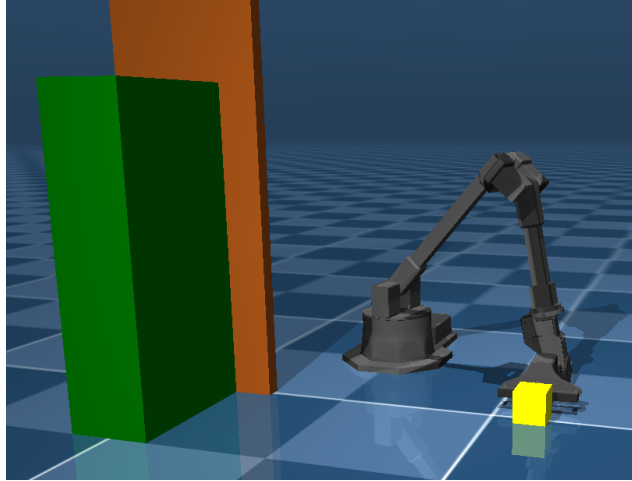

Figure 1: Trajectory control for the Trossen WidowX 250 S
2. **Trajectory control for Trossen Robotics WidowX 250 S:** For completeness, this question is copy pasted from HW9, but new parts are in **magenta**. Figure 1 shows the WidowX 250S by Trossen Robotics. A video of the robot in action is here: https://www.youtube.com/watch?v=l_10IH0JNxl. I have provided the *wx250s_mocap.xml* file. Please use this file and include it in the scene.xml meshes that can be downloaded from GitHub https://github.com/google-deepmind/mujoco_menagerie/tree/main/trossen_wx250s. I have also provided you with a folder *wx250s_traj_control* that contains the main file *mj_wx250s_traj_control_cart.py* which will run without errors once you set the correct *xml path* (top of the file).